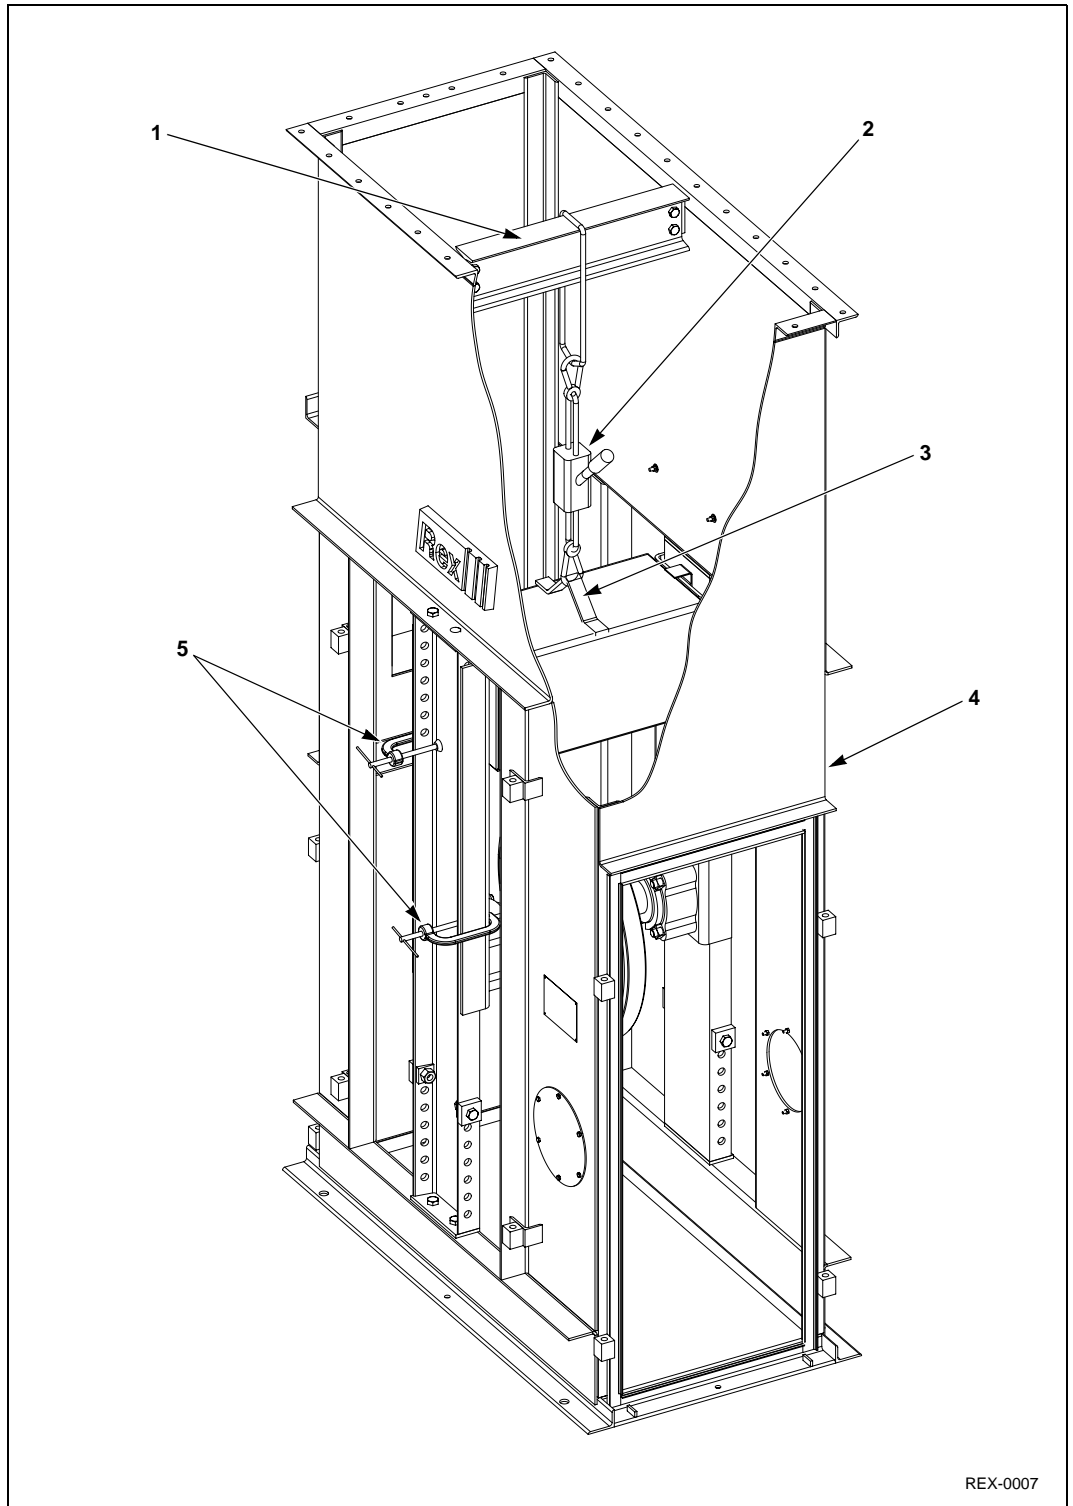

Figure 4-11: *Cutaway of Boot – Positioning/Setting Take-up and Guides*
1. Support take-up assembly within boot section from lifting beam with a chain hoist. See Figure 4-11.
5. Install C-clamps around take-up frame and take-up guides to hold shims in place. See Figure 4-11.